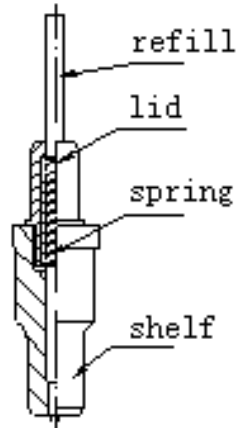

Figure 2-2
- ① Using pen you can plot the characters or graphics that you have designed on the paper, when plotting, you should reduce the down force in order to avoid damaging the paper. Meanwhile you should give up the compensation in the software, and increase the cutting speed.(Figure 2-2)
- ② Pen Installing: